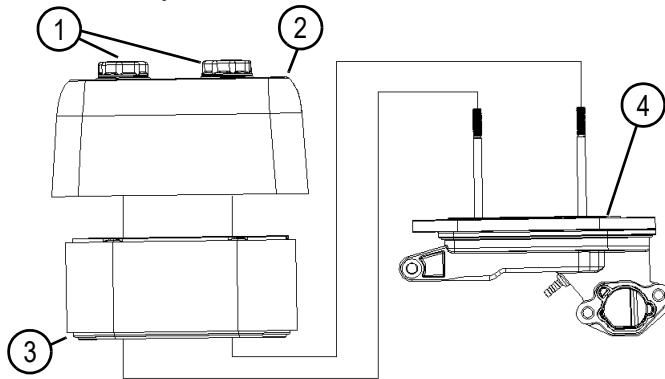

Figure 3-3: Air Filter
9. See Figure 3-3. Run engine, shut it off, and check oil level again. Adjust the oil level as necessary.
1. See Figure 3-3. Remove and retain the nuts and remove the air filter cover.